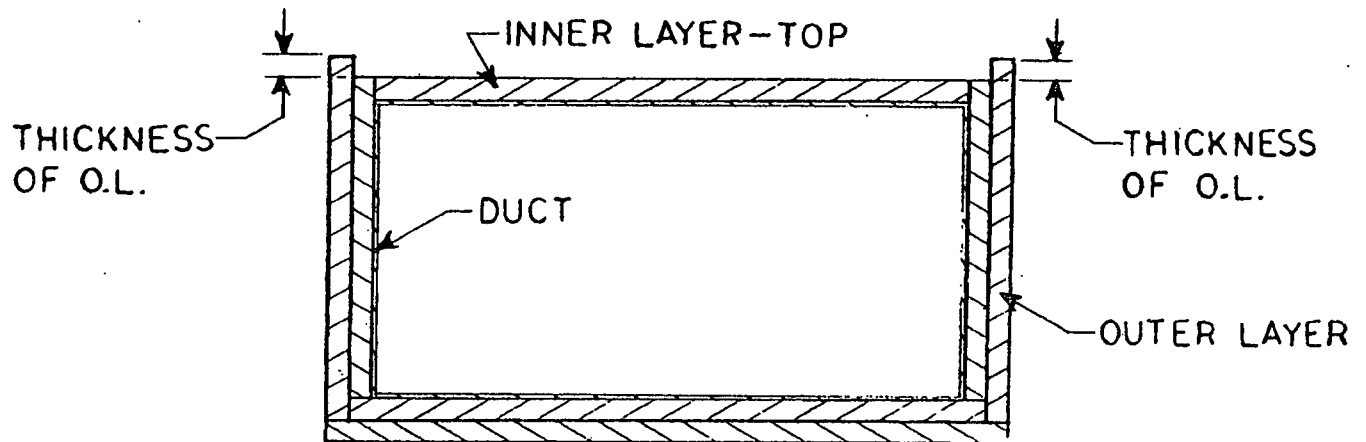

FIGURE 22- END VIEW
- 5D2.5 The outer layer blocks, on the side surfaces, shall extend above the inner layer insulation on the top surfaces a distance equal to the thickness of the outer layer insulation. (See figure 22)